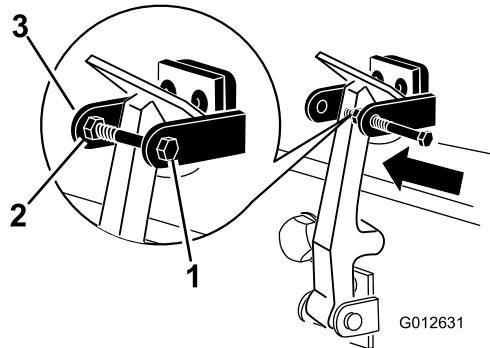

Figure 16
7. Screw the bolt into the other arm of the hood-lock bracket to lock the latch in position (Figure 16).